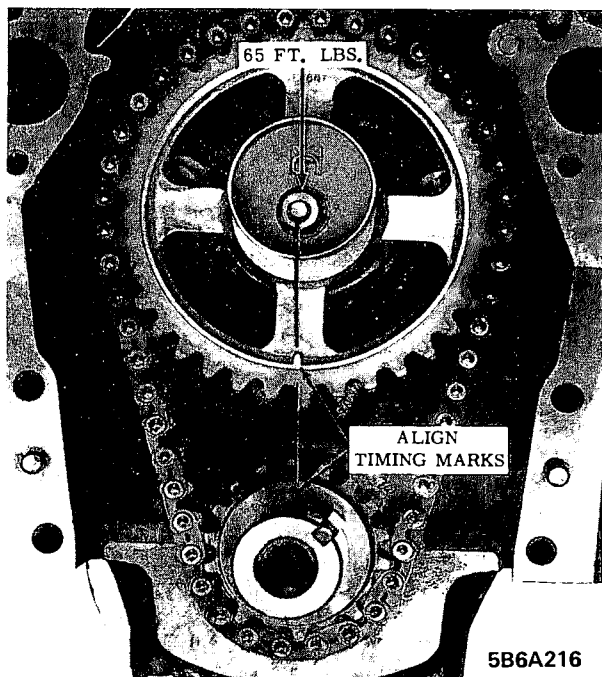

Figure 6A-208 - Aligning Timing Marks
(NOTE: When the two marks are in alignment (Figure 6A-208). Number six is at T.D.C. To obtain T.D.C. for number one cylinder slowly rotate crankshaft one rotation, this will bring the cam mark to the top, number one then will be in firing position.)
2. Install fuel pump eccentric with flat side rearward. Figure 6A-209.